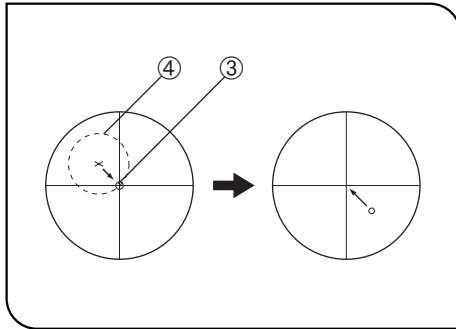

Fig. 28
10. Centering the rotatable stage (Figs. 28 & 29)